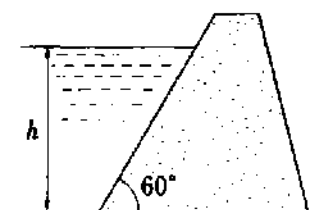

Fig. 3.27
8. What is the force acting on a unit width of the dam wall shown in Fig. 3.27, if the water is 15 m deep and the wall is inclined at  $60^\circ$ ? Furthermore, how far along the wall from the water surface is the action point of the force?